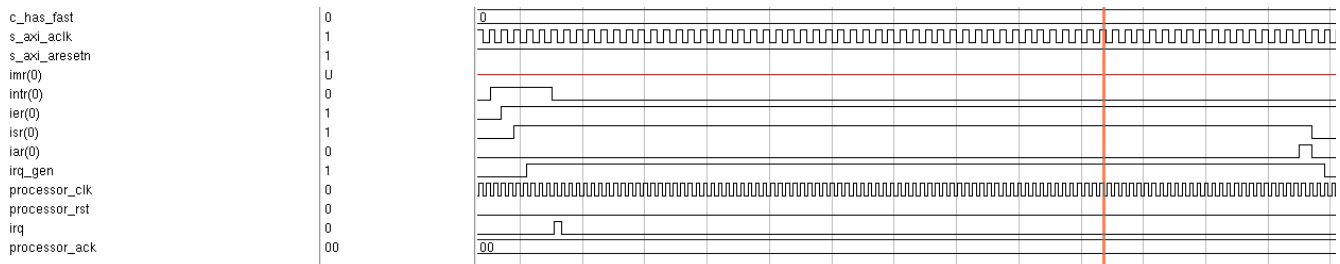

Figure 17: Input Intr - Level Sensitive (High), Output Irq - Edge Sensitive (Rising), C_HAS_FAST = 0
- Configured Input Interrupt (Intr) for Level sensitive (active High), Output Interrupt Request (Irq) to Edge sensitive (Rising), disabled fast interrupt logic (C_HAS_FAST = 0). Timing diagram is shown in Figure 17.